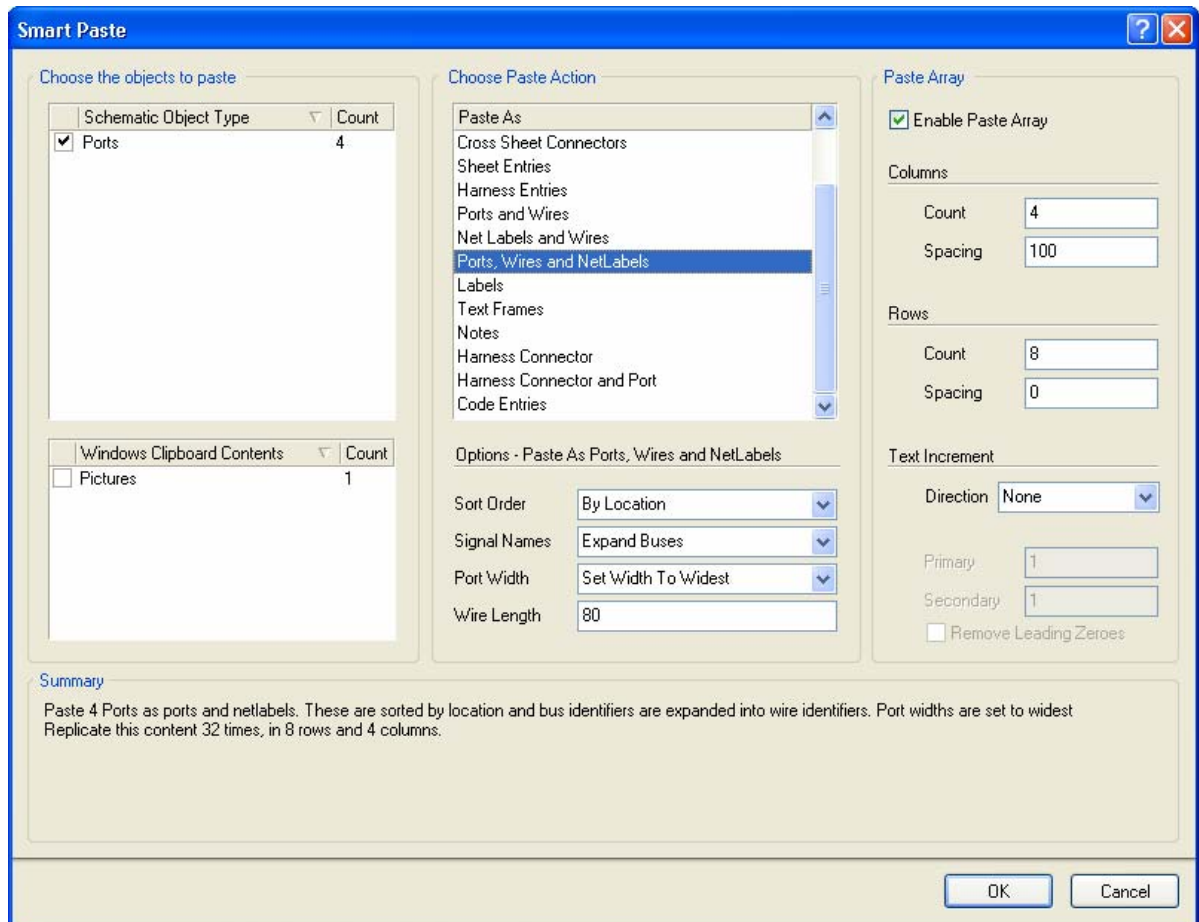

Figure 19 Smart Paste dialog
- Choose **Edit » Smart Paste** from the menus (**Ctrl+Shift+V**), to display the Smart Paste dialog, as shown in Figure 19.